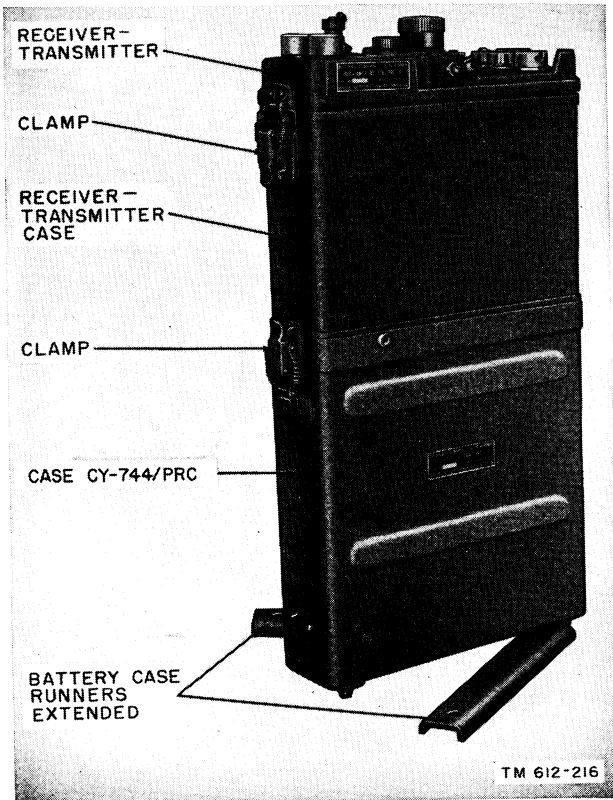

Figure 4. Receiver-transmitter and battery cases, connected.
a. GENERAL. Radio Receiver-Transmitters RT-174/PRC-8, RT-175/PRC-9, and RT-176/PRC-10 are electrically and mechanically similar; they differ from each other only in their operating frequencies and in the components which determine these frequencies. Each set consists of a superheterodyne f-m receiver and f-m transmitter which use a common antenna. The receiver-transmitter consists of a single panel-chassis assembly which is mounted in a case (fig. 4).
a. **BATTERY CASE CY-744/PRC** (fig. 4). Fastened to the bottom of the aluminum battery case are two U-shaped runners which prevent the equipment from tipping when operated on the ground. The battery case protects and supports the battery which is powering the equipment. A plug on a cable attached to the bottom of the receiver-transmitter makes the various battery connections. The receiver-transmitter has two spring clamps, one on each side, to hold the battery case in place.